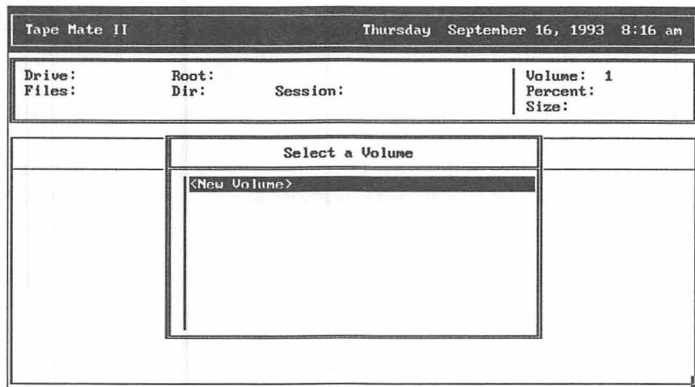

Figure 28 Select a Volume Dialog Box
- 4 When you are satisfied with the parameters, press [F2] in the main Backup Parameters dialog box. The Select a Volume dialog box appears, as shown in *Figure 28*. (If you disabled the database, as described in *Section 25.2*, this dialog box doesn't appear; skip to step 6 to continue.)